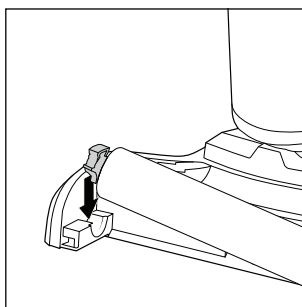

Fig. 40
- ♦ Then push the bracket on the left end of the rotary brush **6** into the opening on the left side of the foot section **3** until the rotary brush **6** audibly clicks into place (see fig. 40).